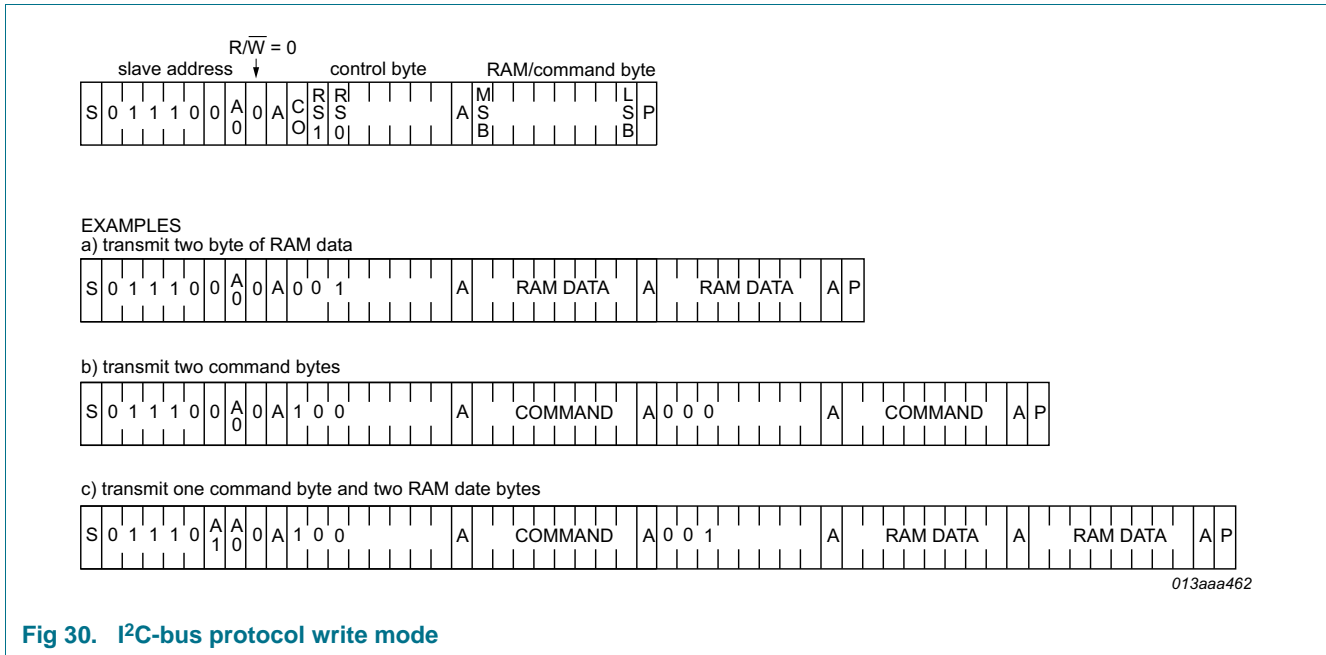

Fig 30. I²C-bus protocol write mode
The I²C-bus protocol is shown in Figure 30. The sequence is initiated with a START condition (S) from the I²C-bus master which is followed by one of the two PCF8545 slave addresses available. All PCF8545 with the corresponding A0 level acknowledge in parallel to the slave address. But any PCF8545 with the alternative A0 level ignore the whole I²C-bus transfer.